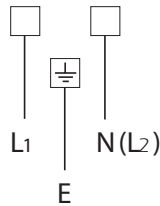

Fig. 4
- Connect the new supply cable, of suitable type and section, to the terminal board following the diagram in Fig. 4.